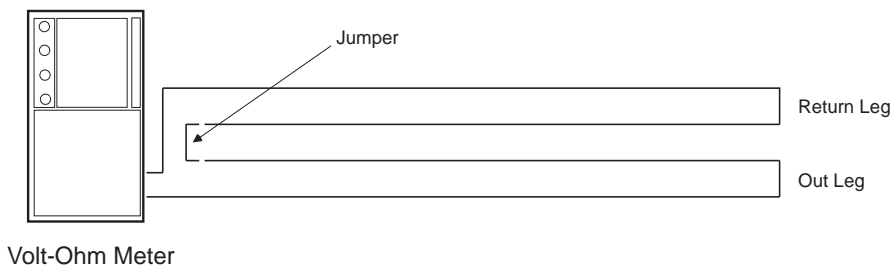

Figure 2-26. Measuring CLASS-A SLC Wiring Resistance
1. Short the “Out” and “Return” legs as shown in Figure 2-26. Measure the resistance using the other two terminating points at the control unit